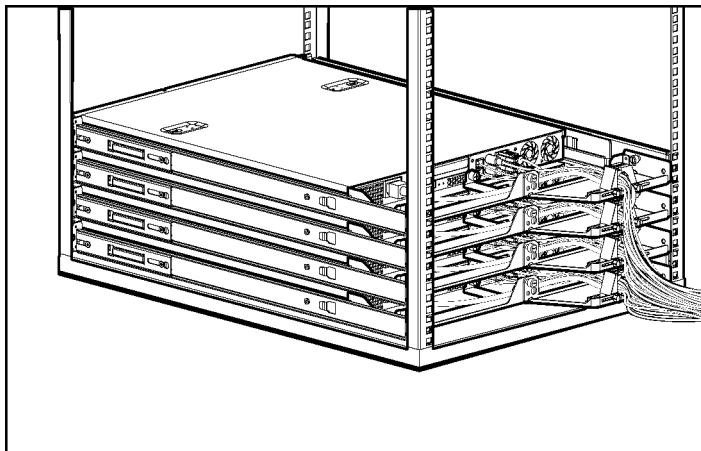

Figure 4-13: Multiple servers installed in a rack with properly routed cabling
4. Route the cables to the side of the rack. Refer to Figure 4-13 for an example.